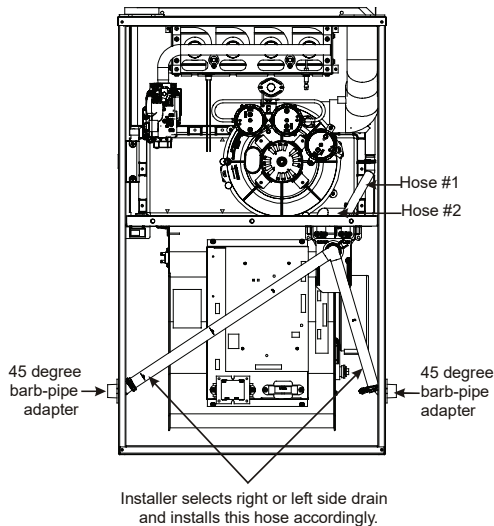

FIGURE 25
1. Locate and install the 45° pipe / hose drain coupling from the outside of the cabinet (barbed end goes in the cabinet) through hole in the right side of the cabinet and secure with two field supplied #8 self-tapping screws (see Figure 25).
1. Install the 45 degree pipe / hose drain coupling from the outside of the cabinet (barbed end goes in the cabinet) through the hole in the left side of the cabinet and secure with two field supplied #8 self-tapping screws (see Figure 25).